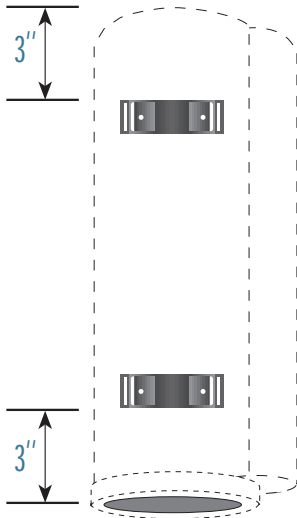

Figure 8
4. Move the bases so that they are spaced approximately 3" from each end of the enclosure as illustrated in figure 8.